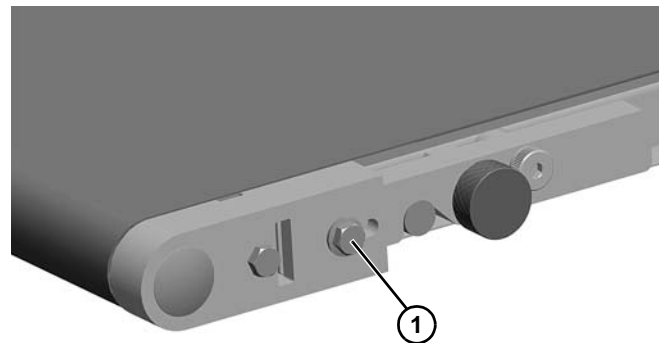

Figure 3
2. Using an M10 wrench, loosen the M6 screw (**Figure 3, item 1**) on both sides of the conveyor to allow for tensioning and tracking of the belt.